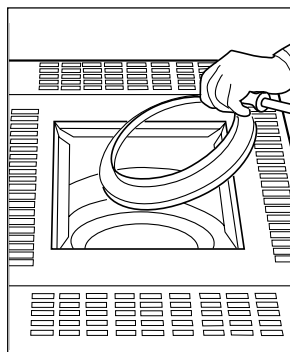

Figure 4. Flue Transition Ring.
- d. Disengage the flue transition ring from the stack extension and place it on top of the collector assembly as shown in Figure 4.